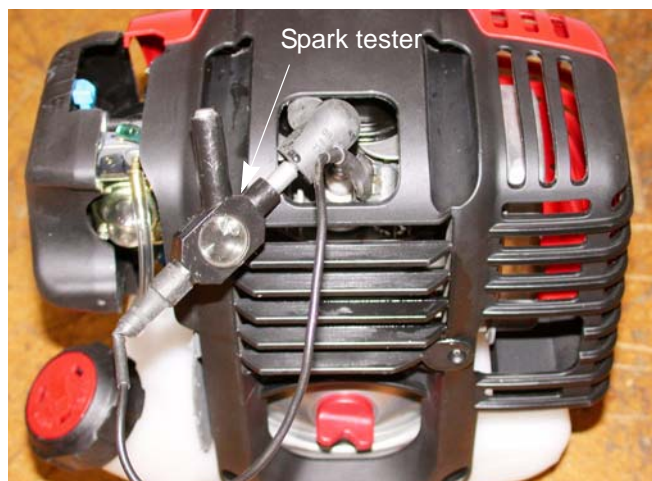

Figure 4.1
5. Connect the other end of the spark tester to the engine block. See Figure 4.1.